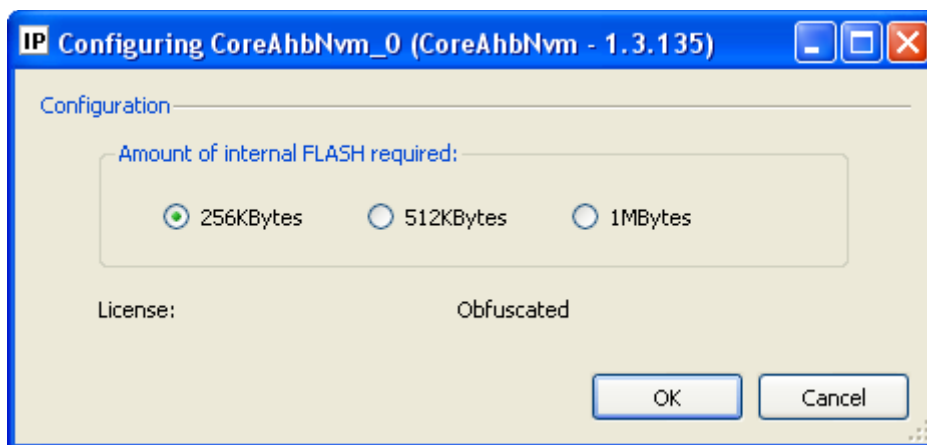

Figure 3-8 • Configuring CoreAhbNvm
2. Instantiate and configure **CoreAhbNvm version 1.3.135** with a size of 256 Kbytes. The CoreAhbNvm settings are shown in Figure 3-8.